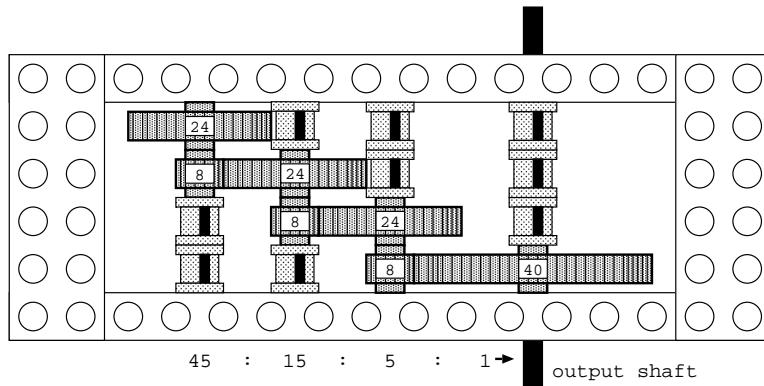

Figure 2: LEGO gearbox
- **Calculating reduction.** The easiest way to calculate gear reduction is to first explain how everything is connected from the gear on the wheel axle to the last meshing gear. For example, with the gear train given in Figure 2 we can say: “There is a 40-tooth gear which meshes with an 8-tooth gear that is on the same axle as a 24-tooth gear, which meshes with an 8-tooth gear that is on the same axle as a 24-tooth gear, which meshes with an 8-tooth gear.” (The last 24-tooth gear is not meshing with anything, and so therefore does not affect the gear ratio. Although the motor would be meshing with that particular 24-tooth gear, when concerning gear ratios we only want to compare the first and last LEGO axles of the gear train.) Given this description, replace every “which meshes with” with \div and every “on the same axle as” with \times . Thus, the gear reduction is $40 \div 8 \times 24 \div 8 \times 24 \div 8 = 5 \times 3 \times 3 = 45 : 1$.